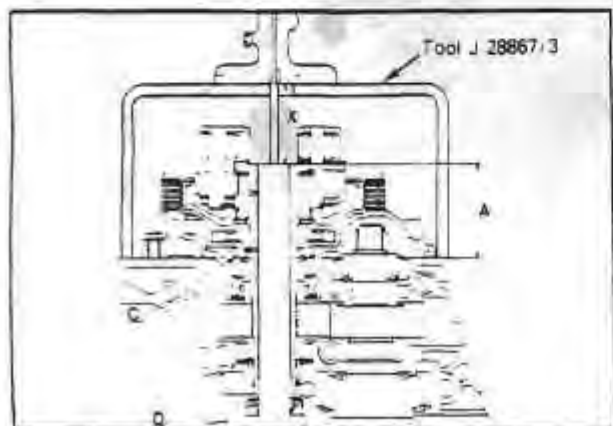

Fig. 73 PLANETARY CARRIER TO FINAL DRIVE CASE MEASUREMENT
Use a depth gauge to measure the distance from the top face of the special tool to the top of the planetary carrier shaft (with thrust washer removed). *Fig. 73*
- f. Subtract the measurement from 120 mm (4.724 in.) to obtain dimension "A". *Fig. 73*
- f. The final dimension should be as near as possible to 73.6 mm (2.898 in.). If it is not close to 73.6 mm, the thickness of the shim pack under the bearing race C Fig. 73 in the planetary housing will have to be increased or decreased.